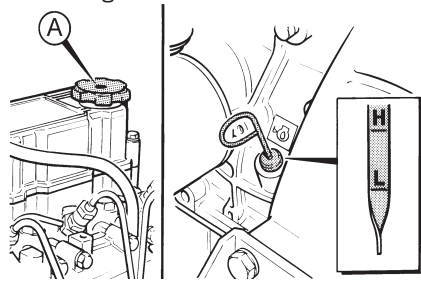

Figure 5.5.3 The oil filler.
2. Fill the sump through the oil filler (figure 5.5.3, A) on the top of the valve rocker